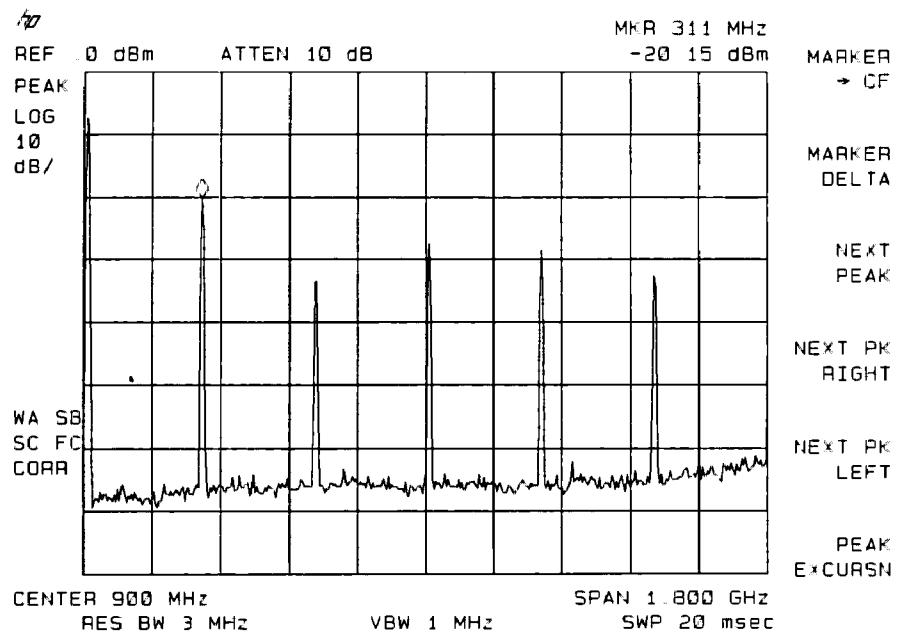

Figure 6-11. Placing a Marker on the CAL OUT Signal
2. Press **PEAK SEARCH** to place a marker at the highest peak on the display. The **NEXT PK RIGHT** and **NEXT PK LEFT** softkeys move the marker from peak to peak. Press **NEXT PK RIGHT** to move the marker to the 300 MHz calibration signal. See Figure 6-11.